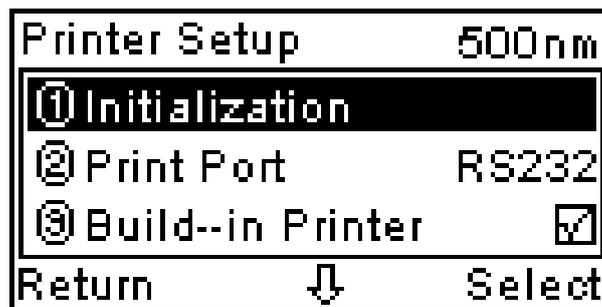

Fig 47
② “Set date” is the same as the “Set time”
- 【6】** Printer Setup: Select this option to go to Fig 47